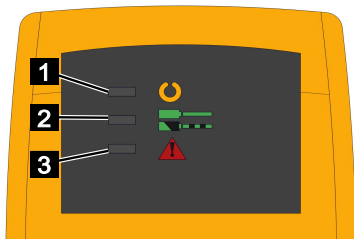

Fig. 219
- Yellow LED (Fig.219/1) is lit
- Green LED (Fig.219/2) flashing
- Green LED (Fig.219/2) is lit
- Red LED (Fig.219/3) is lit